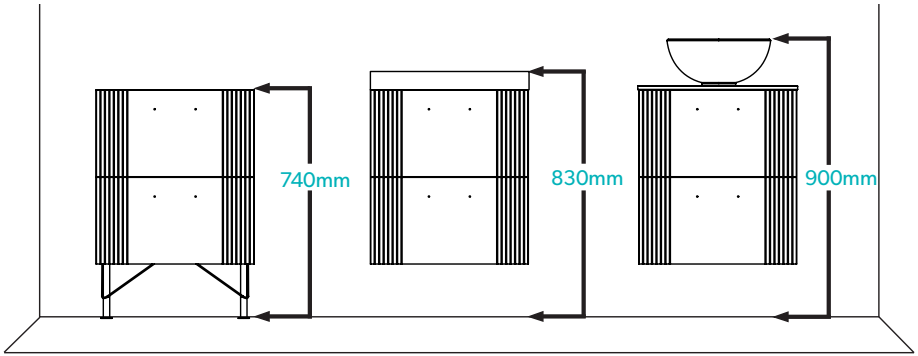

Fig. 1 - Recommended Install Heights
2. Plan the unit position on the wall. HiB recommend the installation heights shown in *Fig. 1.* Take note of the height of the optional leg kit if it is being installed.